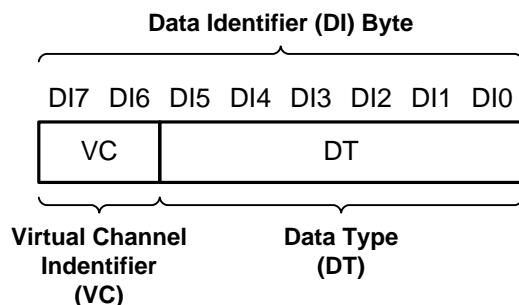

Figure 21. CSI-2 Data Identifier Structure
The DS90UB964-Q1 MIPI CSI-2 protocol interface transmits the data identifier byte containing the values for the virtual channel ID (VC) and data type (DT) for the application specific payload data, as shown in Figure 21. The virtual channel ID is contained in the 2 MSBs of the data identifier byte and identify the data as directed to one of four virtual channels. The value of the data type is contained in the 6 LSBs of the data identifier byte.